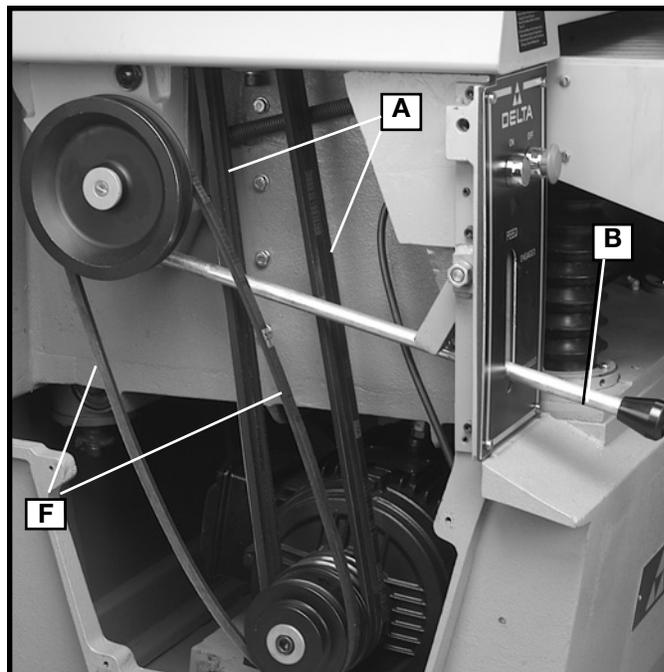
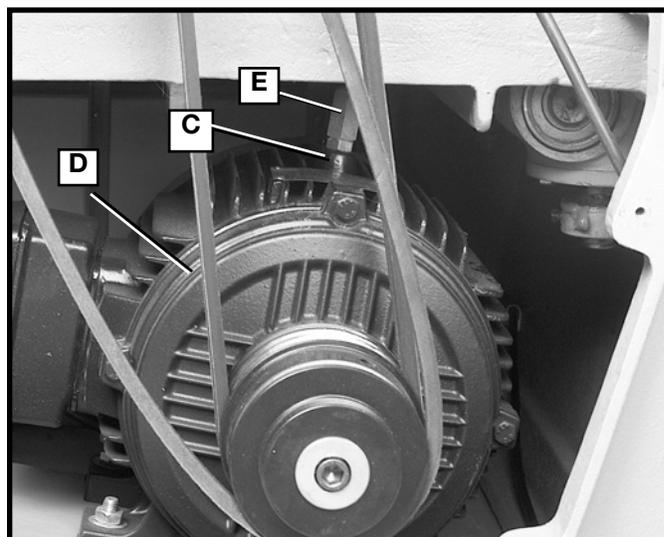

Fig. 16
Fig. 17
**DRIVE BELT TENSION:** Proper drive belt tension is obtained when there is zero deflection, using light finger pressure, on drive belts (A) Fig. 16, midway between pulleys. If an adjustment is necessary, push down on lever (B) Fig. 16, to disengage feed roller. Loosen jam nut (C) Fig. 17, located on top of motor (D) and turn adjustment stud (E) right or left as needed until proper drive belt tension is obtained. Tighten jam nut (C) after adjustment is made.
**FEED ROLL BELT TENSION:** Proper tension on feed roll belt (F) Fig. 16, is obtained when there is approximately 1" deflection, using light finger pressure on feed roll belt (F), midway between pulleys.